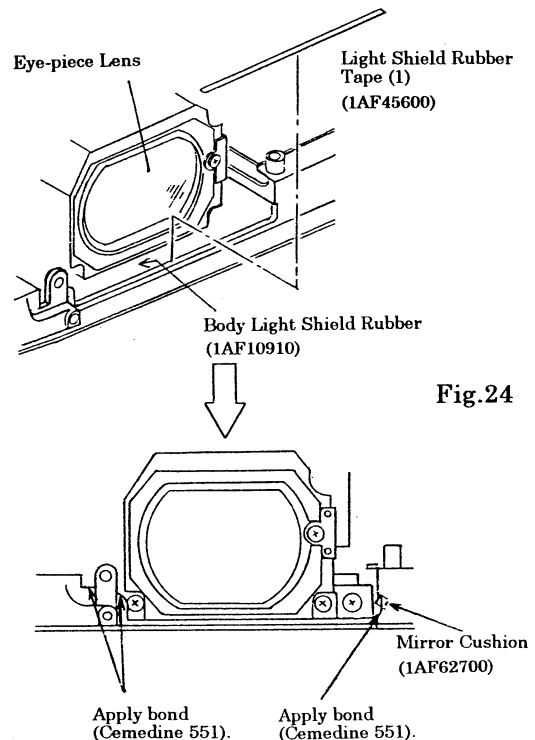

Fig.24
- The Body Light Shield Rubber (1AF10910) is fixed to the Body Frame with the Light Shield Rubber Tape (1) (1AF45600) and the bond (Cemedine 551). (See Fig.24)
- 4) Remove the Guide Rail (2) (1AF40600) and Guide Rail (1) from the Mount Base Ass'y.
- 5) Remove the B. Stop Plate Setscrews (61914022) × 4 and take off the B. Stop Plates (1AF42200) × 2 and Guide Rail (1) Collar from the Movable Body.
(See Fig. 24)